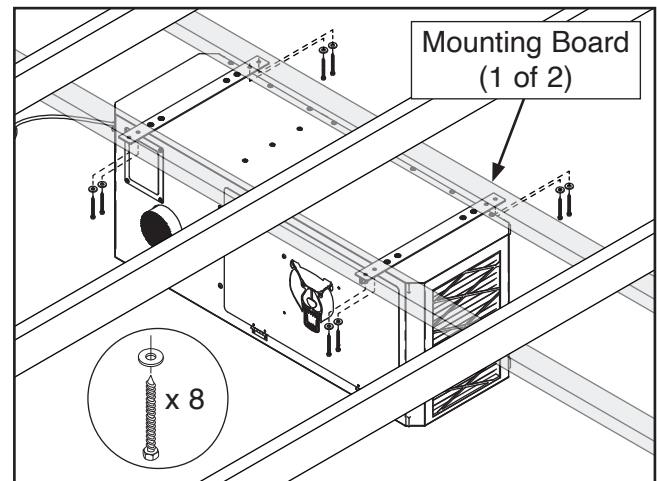

Figure 31. Securing machine to mounting boards (mounting boards greyed out for clarity).
5. With help from an assistant, lift machine and secure to mounting boards with (8) $\frac{5}{16}$ " x 2" lag bolts and $\frac{5}{16}$ " flat washers, as shown in **Figure 31**.